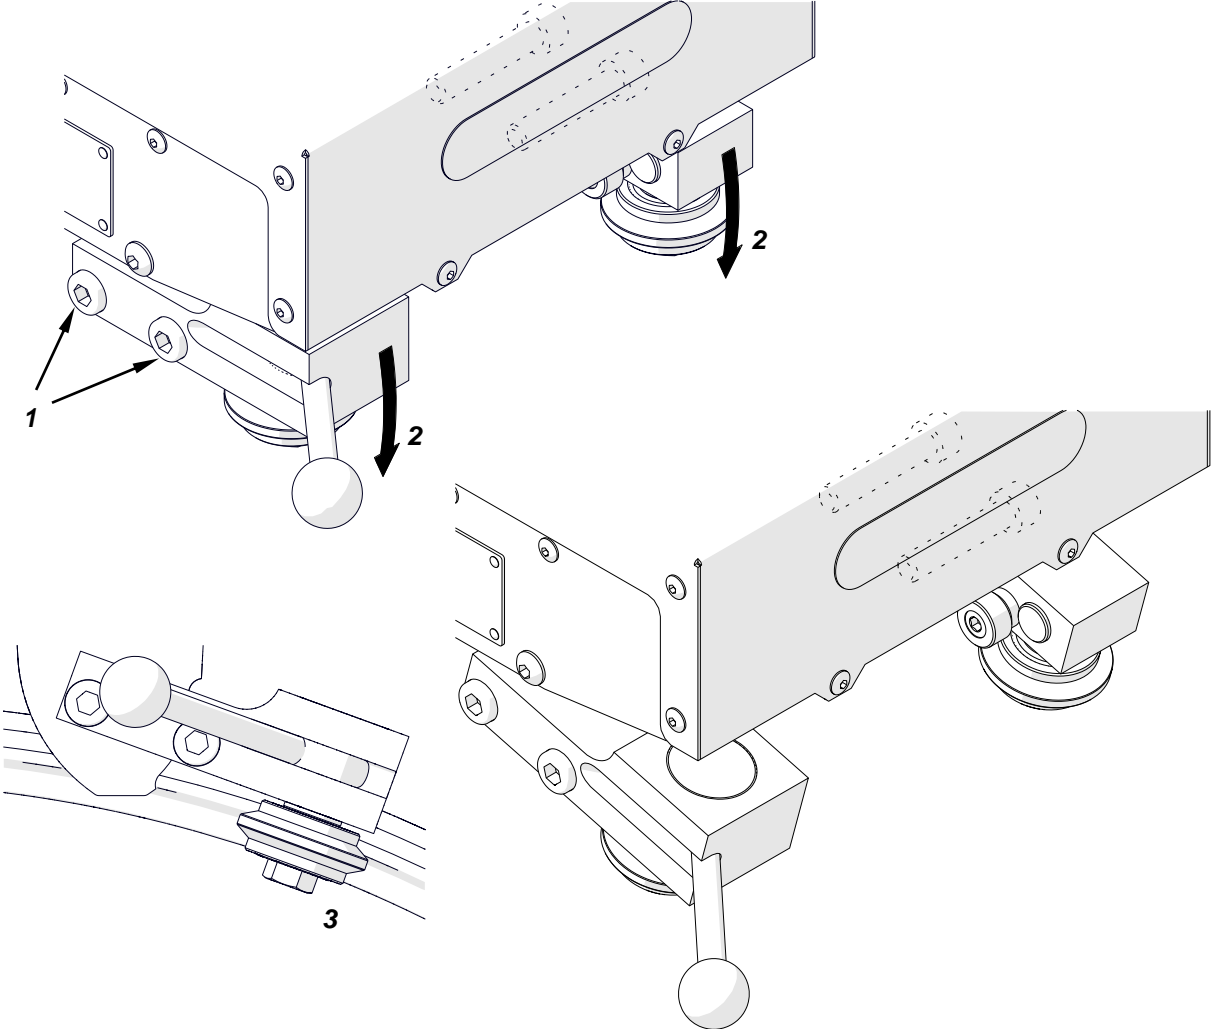

Fig. 8. Rotating the rollers for a curved track
Use the 6 mm hex wrench to loosen four screws (1, Fig. 8), and then put the carriage on the track. Rotate two roller brackets (2) to put the rollers into the grooves, and then set the levers to ON (3). Next, move the carriage back and forth to make sure that it moves smoothly. Then, tighten the screws (1) and use the knob (4) to engage the gear with the rack as described in "Positioning on a straight track".